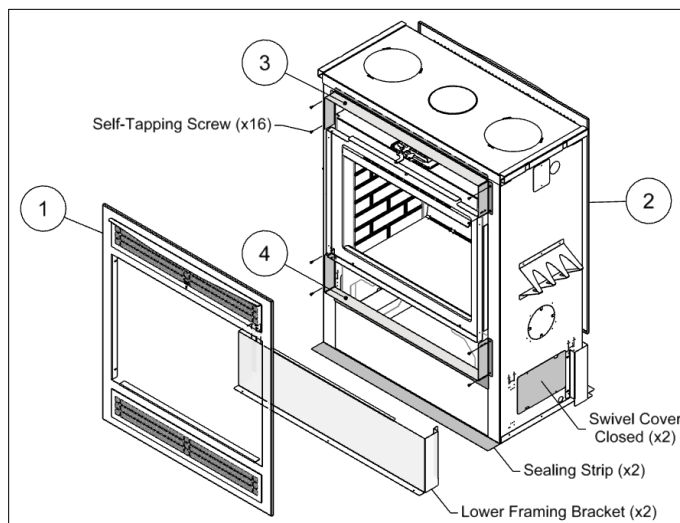

Figure 3-8: Traditional Surround
The Traditional Surround comprises louvers below (intake) and above (outtake) the door. All components and fasteners are included in the surround kit. Refer to Figure 3-8 and Table 3-3 for the instructions below.
5. Secure the Intake Swivel Covers on the bottom sides of the unit to the closed position (Figure 3-8).